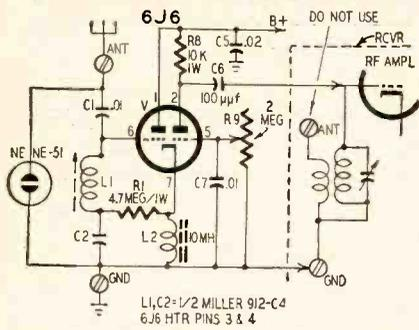

Fig. 6—The high-gain version for isolated areas, including T-R function.
A relatively simple modification of the original circuit makes possible a definite voltage gain in the front end and also biases off the input in the presence of very strong signals. This circuit (Fig. 6) is useful in isolated areas where more sensitivity is needed and in the immediate vicinity of very powerful transmitters which cannot easily be tuned out with ordinary front ends. This circuit is quite similar to the "S-9er" developed by Sam Canter, W6TSSQ1; in combination with the Barker and Williamson Model 380 T-R Switch. The R-C circuit in the second triode grid furnishes some T-R action.
- C6—100 μf, disc ceramic (Fig. 6 only)
- C7—.01 μf, disc ceramic (Fig. 6 only)
- R8—10,000 ohms, 1 watt (Fig. 6 only)
- R9—2 megohms, linear pot (Ohmite type CU or equivalent, Fig. 6 only, see text)
- Rubber feet (4)
- Dual binding posts (2)—Eby 21-R or equivalent
- Socket—7-pin miniature with shell (1)
If the T-R function is not desired, the grid of the second triode (pin 5 in Fig. 6) is grounded directly.